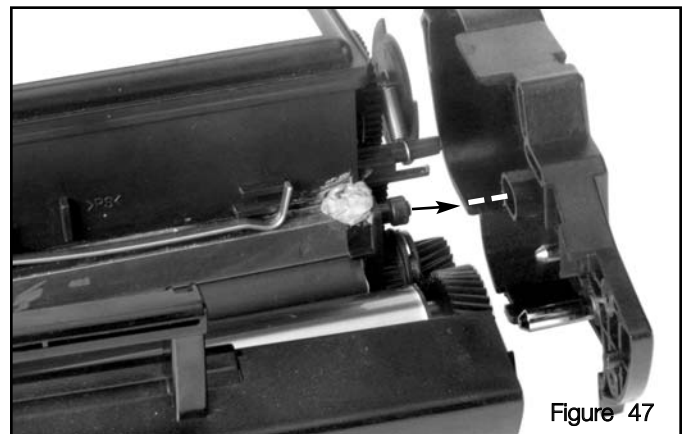

Figure 47
1. Align the contour of the Drive Side End Plate with the Drum Axle, Drive Gears and Developer Roller Gear Axle (Figure 47).